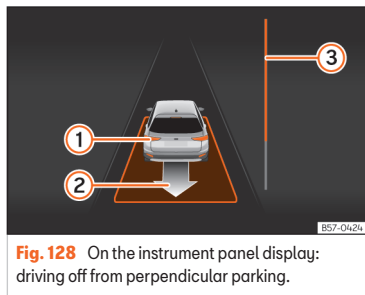

Fig. 128 On the instrument panel display: driving off from perpendicular parking.
- Reverse until the continuous ParkPilot signal sounds; **OR:** reverse until the instrument panel display shows the forward indication. The progress bar ③ >>> Fig. 128 indicates the distance to cover.
- Press the brake pedal until the parking assist system completes the steering wheel turns; **OR:** press the brake pedal until the symbol (S) goes out on the instrument panel screen.